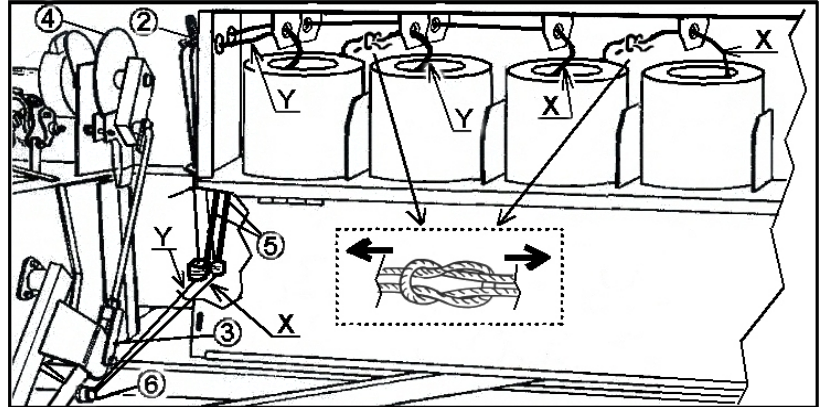

Fig. 2
6. The adjustable twine clamp (no. 2 fig. 2) is too tight so that the twine, jointed or not well coiled and tangled doesn't slide correctly. Therefore the needles can be stopped when moving upward.